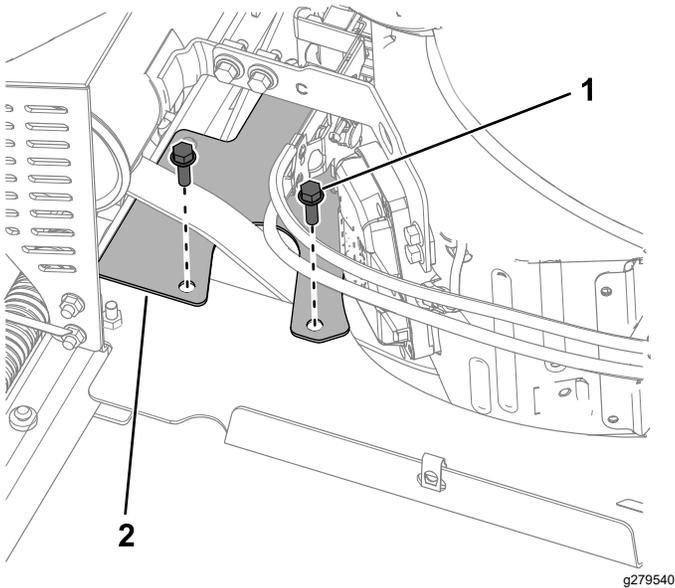

**Figure 21**
1. Install the extension guard as shown in Figure 21. Torque the nuts to 20 to 25 N·m (15 to 18 ft-lb).